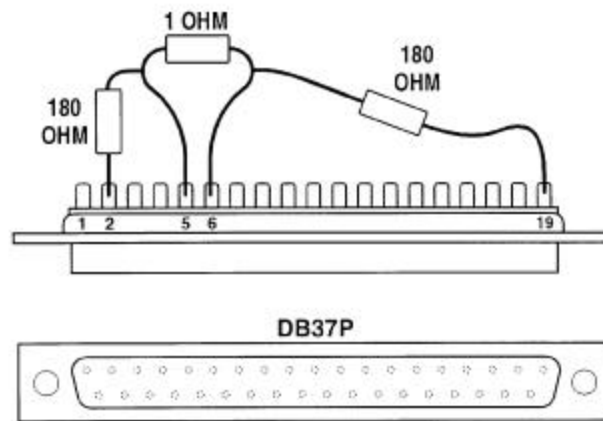

Figure 5-2. Calibration fixture
- Calibration fixture as shown in *Figure 5-2*.